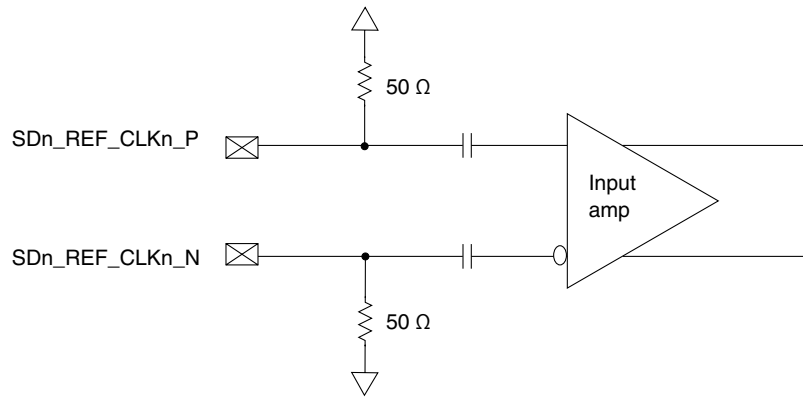

Figure 32. Receiver of SerDes reference clocks
- The $SDn_REF_CLKn_P$ and $SDn_REF_CLKn_N$ are internally AC-coupled differential inputs as shown in Figure 32. Each differential clock input ($SDn_REF_CLKn_P$ or $SDn_REF_CLKn_N$) has on-chip $50\text{-}\Omega$ termination to $SGNDn$ followed by on-chip AC-coupling.